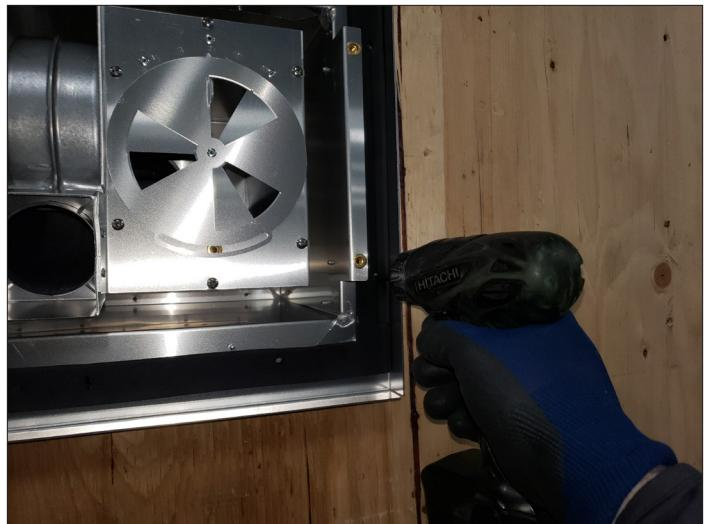

Figure 3.19, Install Cap into Wall
- Install cap into the wall and attach the cap to the wall using the eight screws provided. See Figure 3.19.